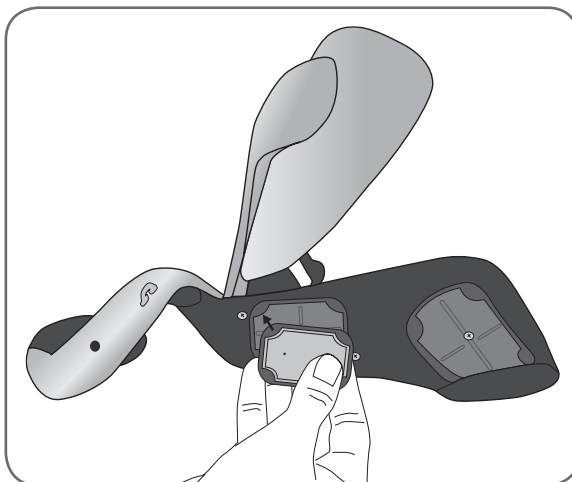

Figure 8-7: Inserting the #5 cloth electrode into the #5 electrode base.
7. For cloth electrodes #1, 2, 4, and 5, face the white dot on the cloth electrode toward the electrode base. Insert the corners of the cloth electrode into the electrode base. See Figure 8-7.